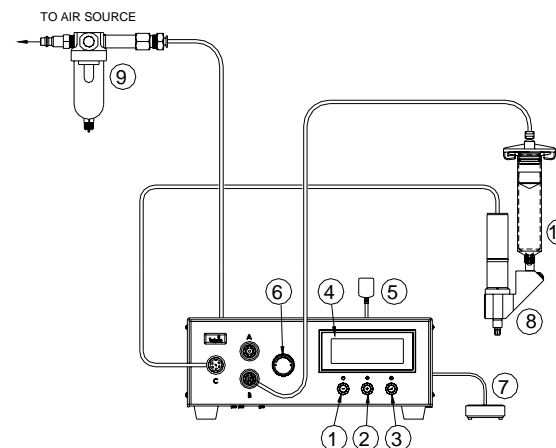

Figure 6.0
5.3.1 Connecting The Unit: (Refer to Figure 6.0 for detail)